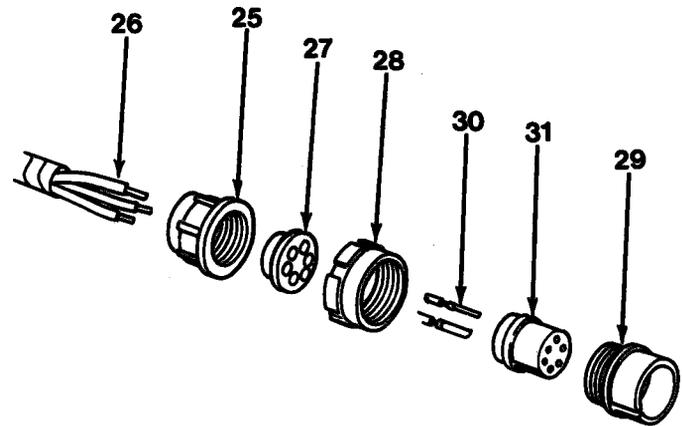

Figure 10-7
2. Unscrew nut (25, Figure 10-7) from shell assembly and slide back on cable.
3. Slide grommet (27) back on cable leads (26).
4. Slide coupling nut (28) off shell (29).
5. Push socket contacts (30) out through rear of insert (31) with pin extractor.
6. Push insert (31) out through rear of shell (29).
7. Unsolder leads (26) from socket contacts (30).